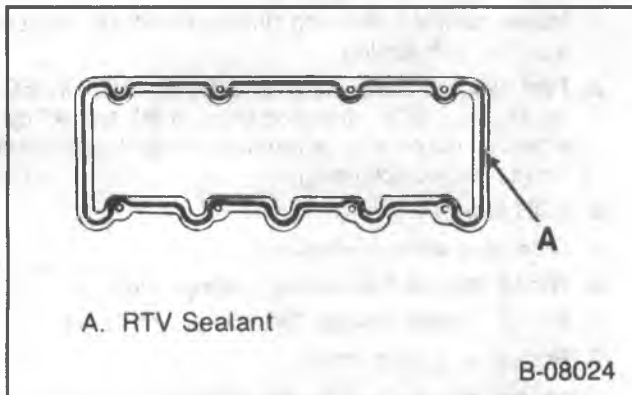

Figure 4 — Applying Sealant to the Rocker Arm Cover
Install or Connect (Figure 4)
- Apply a 5 mm (3/16-inch) bead of RTV sealant (GM part number 1052915 or equivalent) to the cylinder head, inboard of the bolt holes. Refer to figure 4. The sealant must be wet to the touch when the bolts are torqued.